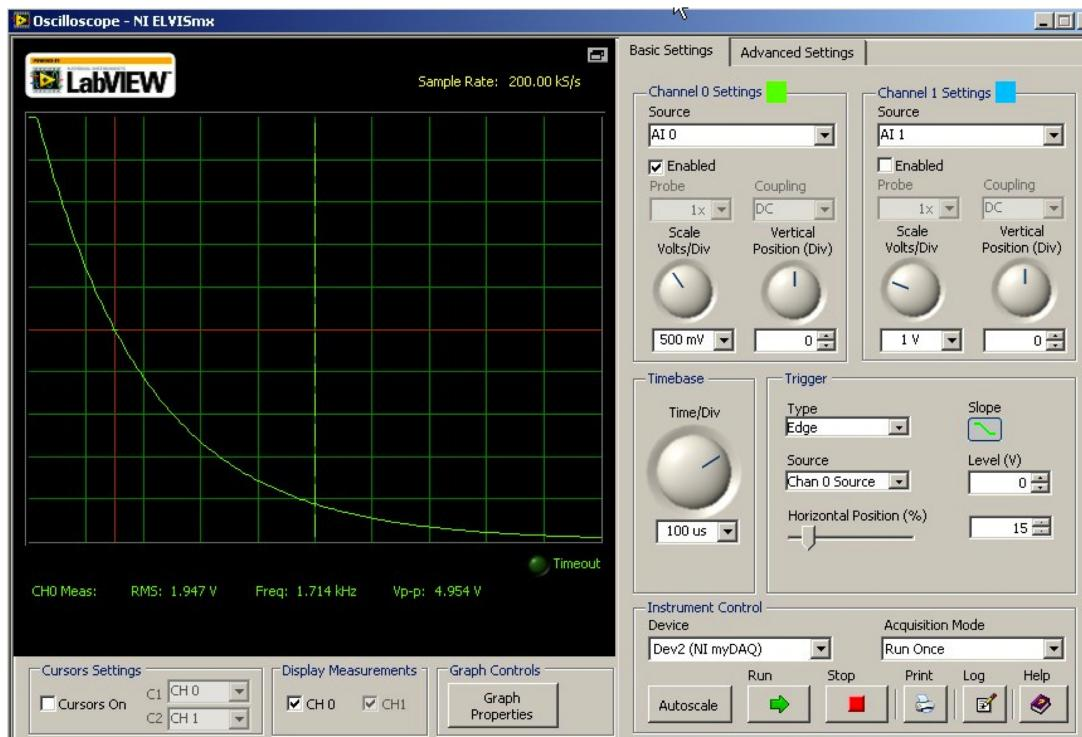

Figure 6: Scope Setup for Time Constant (τ)
clean exponential that starts at the upper left. 15% will be right. The result should look like Figure 6 and will probably be
4. If the trace vanishes, click Run until you get a trace like that in Figure 6.